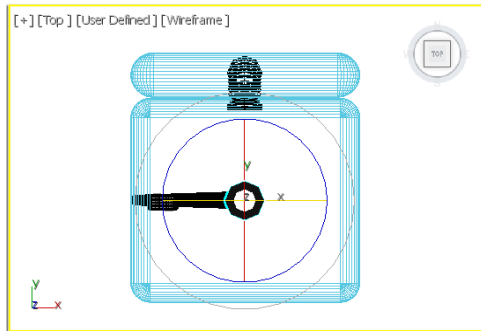

Figure 3-44 A circular gizmo displayed at the location of the working pivot point
21. Activate the Top viewport and then choose the **Select and Rotate** tool; a circular gizmo is displayed, as shown in Figure 3-44.